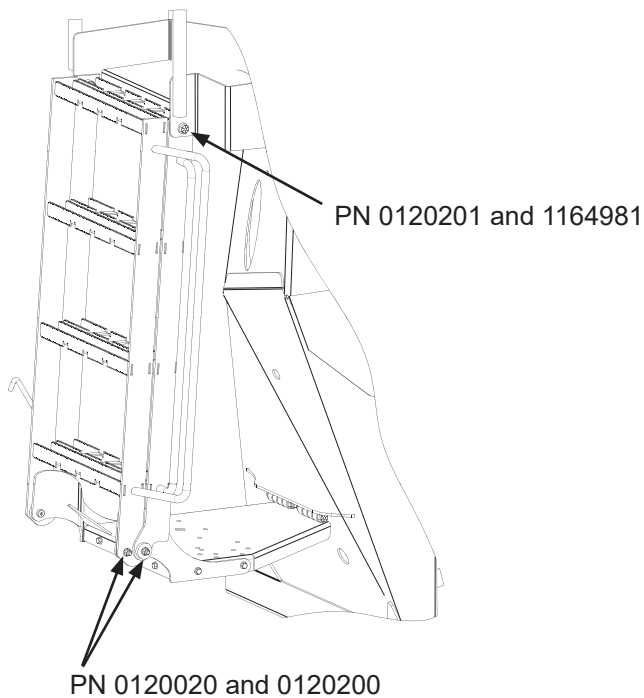

Figure 7
9. Reinstall the upper and lower ladders on to the mixer using new hardware (see Figure 7).
10. Using a torque wrench to torque nuts in the locations shown (both sides) in Figure 7 to 75 ft.-lbs., and then back off (1/2) turn.